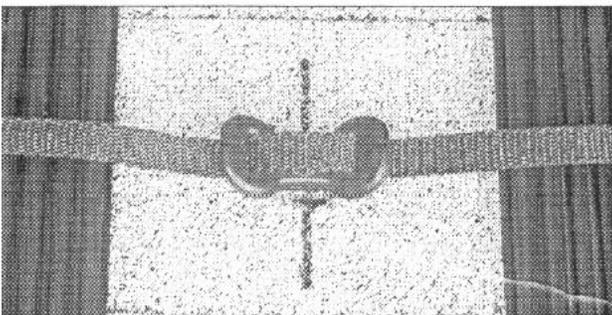

FIGURE 11
9. Bring the remaining strap end across the panel face, passing through both slots in the bracket located on the other side of the panels. Pull the straps taut against the face of the panel. Repeat this procedure for the remaining hold-down strap. Refer to Figure 11.